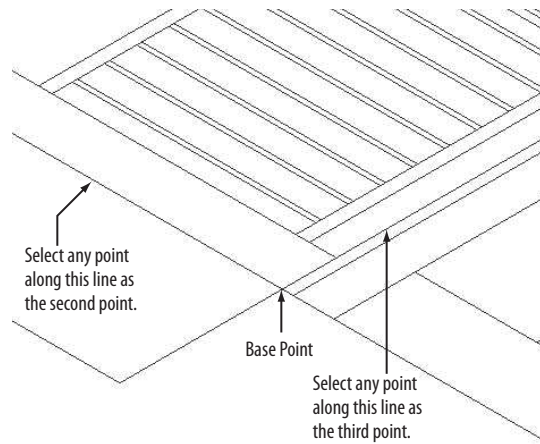

FIGURE 16.73: Defining the source plane from the east elevation
11. Select these points, as shown in Figure 16.73.